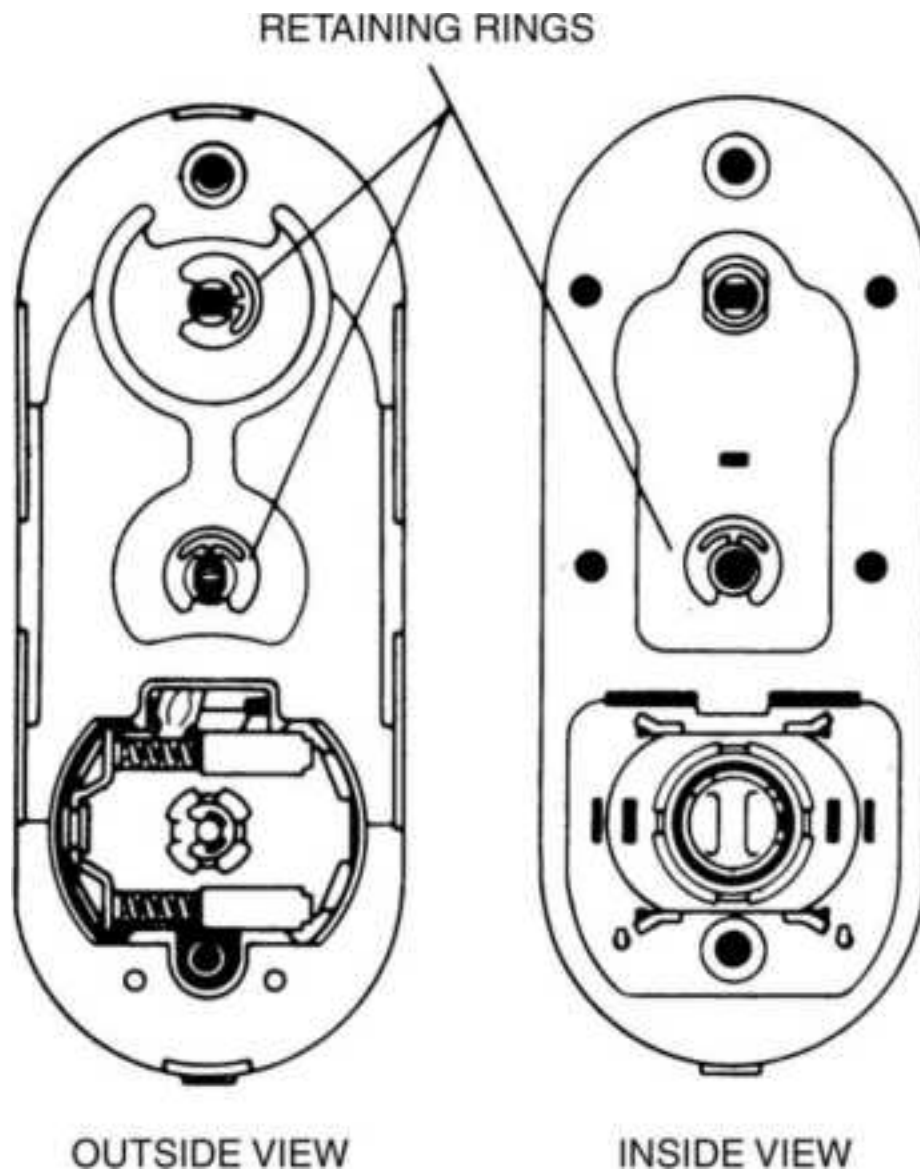

**Figure 13.93** Right-hand conversion, Step 1.
1. Disengage the retaining rings (Fig. 13.93 ).